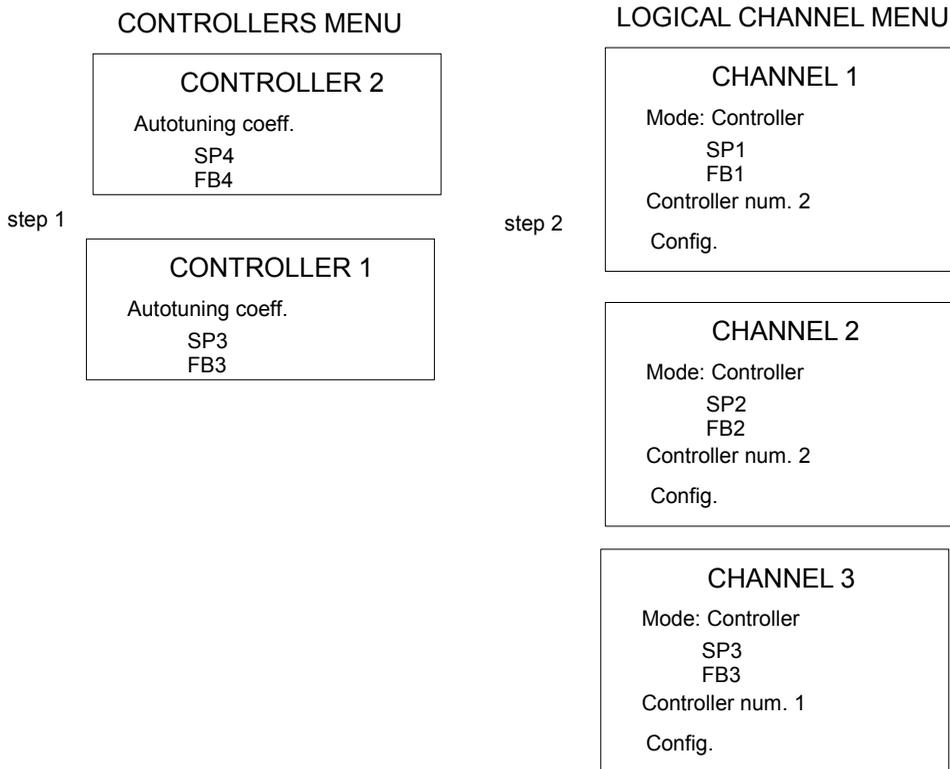

Fig. 7.119. Configuration diagram of the **Controller** using Controller Menu
- through the menu Controllers in the Device Configuration menu (see **Fig. 7.119**),